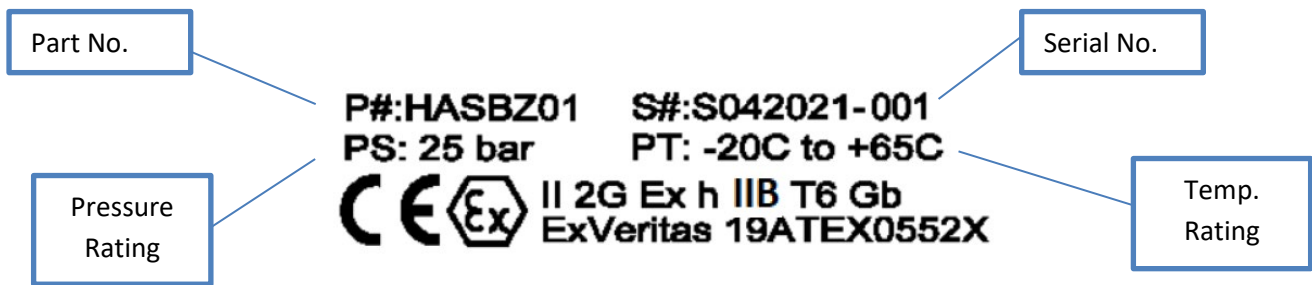

Figure 1
Before installation of commences it is essential to check that material and performance specifications are acceptable for the specific end user application. The pressure rating (PS) and other safe operating limits and primary materials of construction relating to each Smartflow product are clearly identified on the data label of each product, see Figure 1.